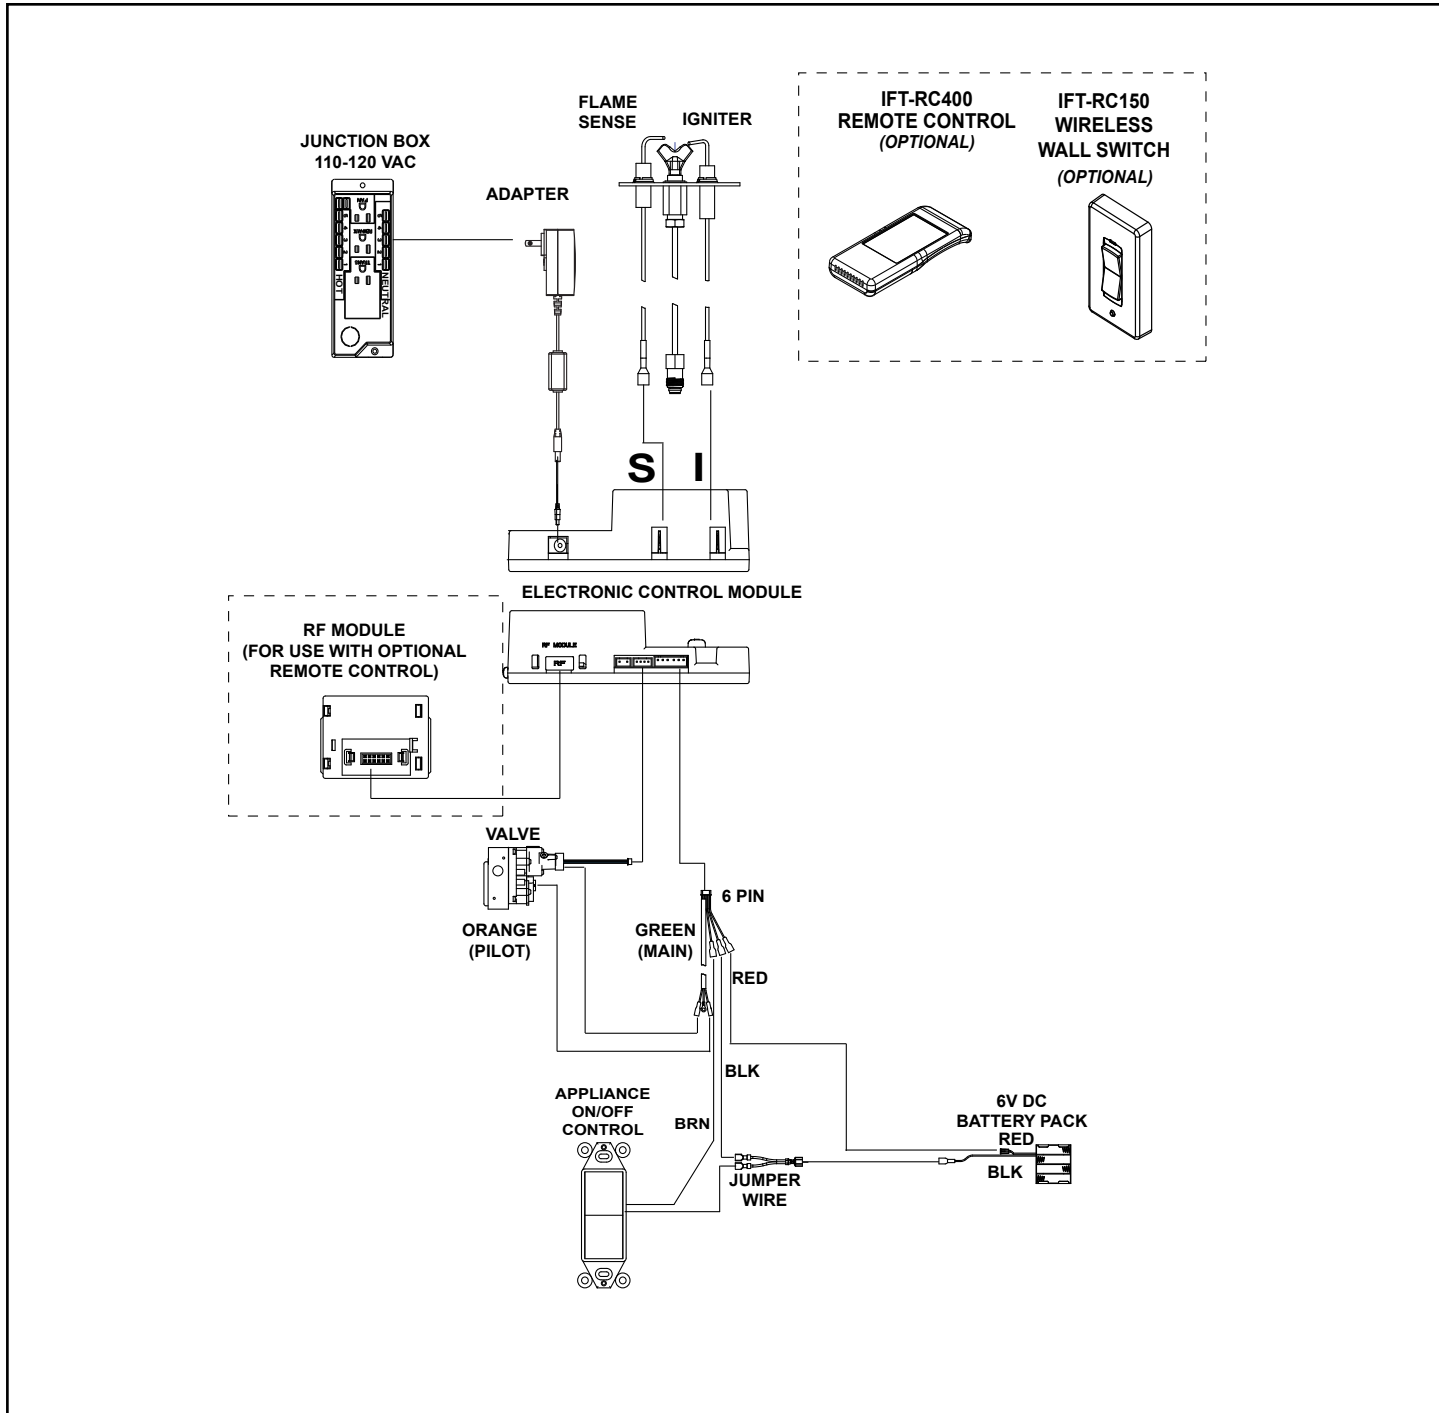

Figure 8.2 IntelliFire™ Touch Ignition System Wiring Diagram
- Refer to Figure 8.2 IntelliFire™ Touch (IPI) Wiring Diagram.